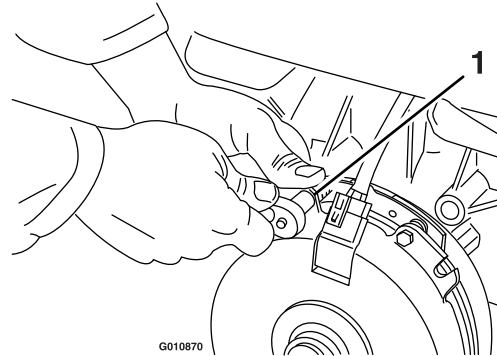

Figure 64
- A. Loosen both brake-mounting bolts 1/2 to 1 full turn as shown in Figure 64.